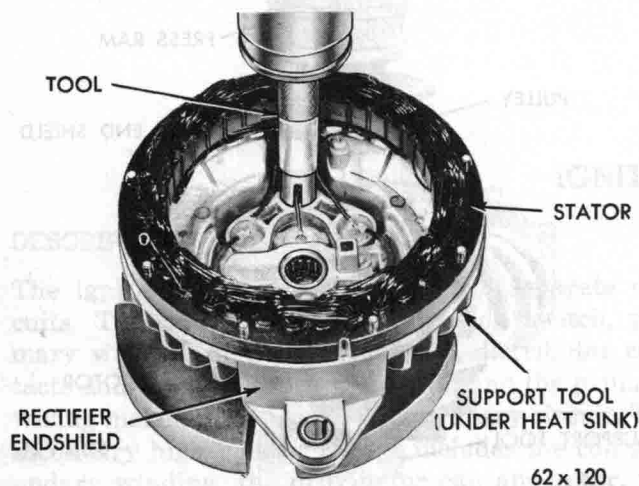

Fig. 55—Installing A Rectifier
(1) Support the heat sink or rectifier end shield on circular plate Tool SP-3377.
(2) Note the rectifier identification to make sure the correct rectifier is being installed. Refer to the MoPar Parts List at the Chrysler Engine Centers for rectifier identification.
(3) Start the new rectifier into the casting squarely and press the rectifier into the casting with Tool C-3772 (Fig. 55).